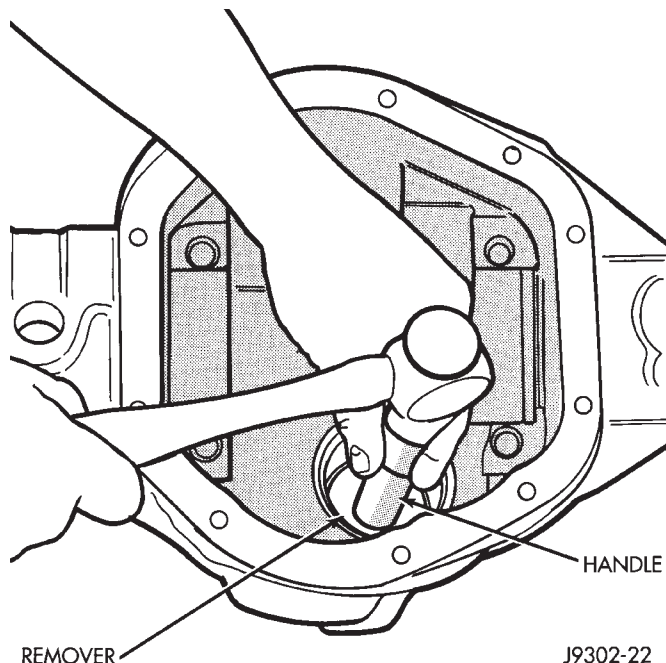

Fig. 39 Front Bearing Cup Removal
(8) Remove oil slinger, if equipped, and the front pinion bearing.
(9) Remove the front pinion bearing cup with Remover D-103 and Handle C-4171 (Fig. 39).